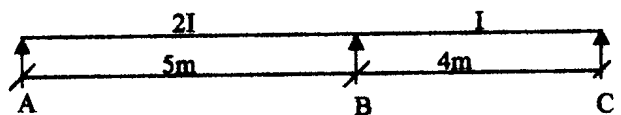

Fig. Q.7
Q.7) State Muller Breslau's Principle. Using this Principle, construct the influence line diagram for the reaction at A for the two-span continuous beam ABC shown in Fig. Q.7. Determine the influence line coordinates at 2m intervals and plot them. (3+8=11)